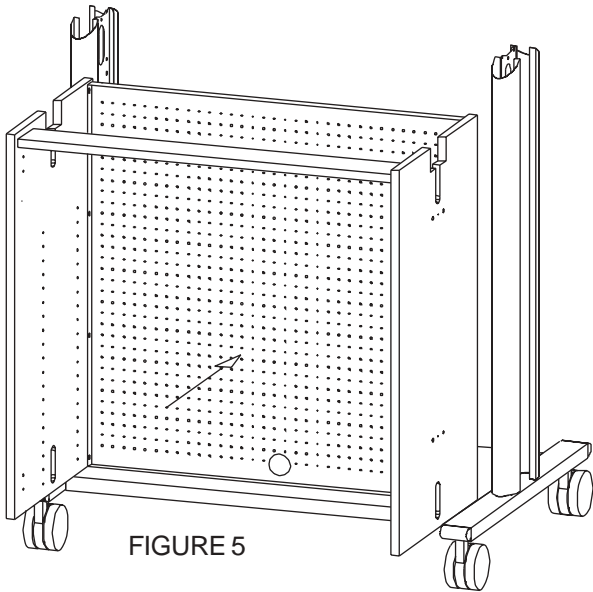

FIGURE 5
Slide the side panel assembly into the cart as shown in **FIGURE 5**. **LOOSELY** secure the sides to the cart with screws ((HH) as shown in **FIGURE 6**.